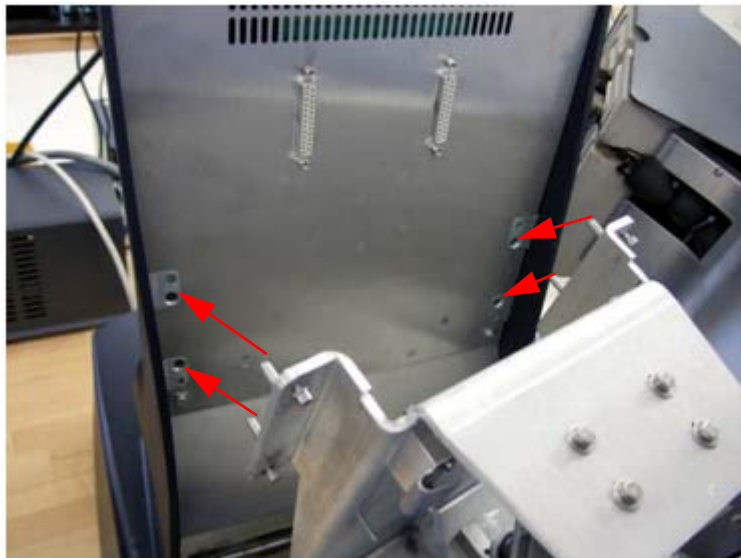

Figure 5 Mounting the ETC on the rear of the instrument.
- 6 Insert the dowel pins on the ETC into the dowel holes on the rear of the instrument, as shown in Figure 5.